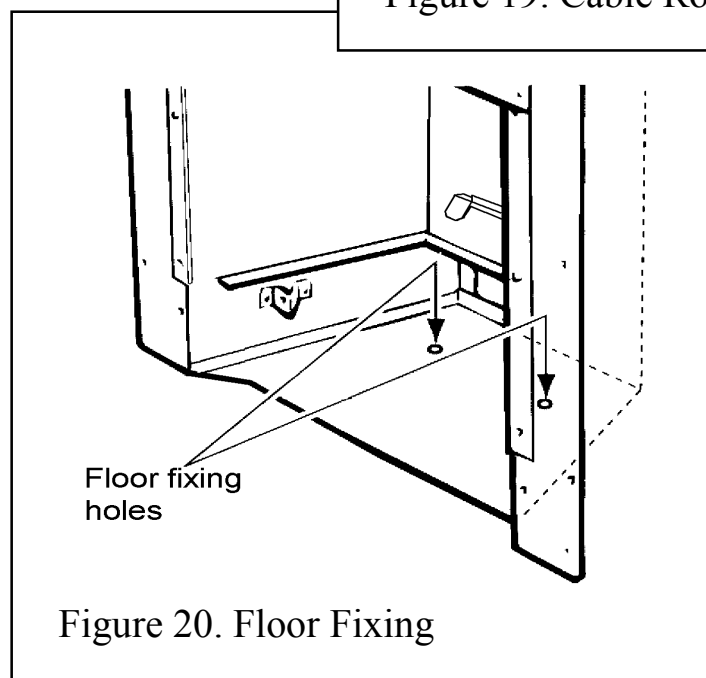

Figure 20. Floor Fixing
8. Drill a hole into the fireplace floor through each of the two holes in the base of the convection box using a no.12 masonry drill. See figure 20.